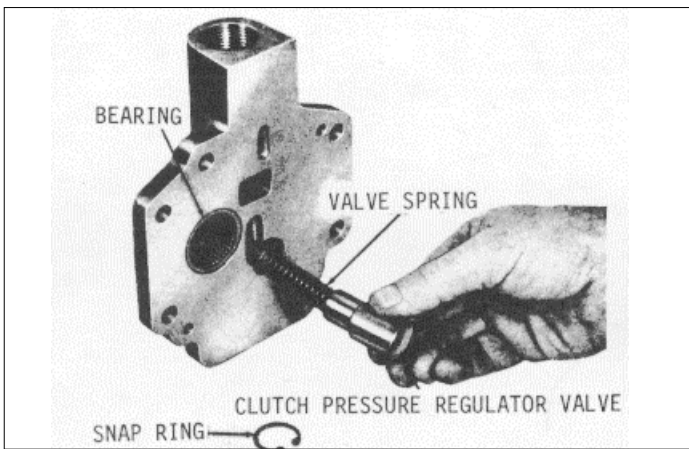

Fig. 28
- (d) Remove the snap ring, clutch pressure regulator valve and spring from the pump cover (Fig. 28).
- (e) Do not remove the needle roller bearing from the pump cover unless replacement is necessary (Fig. 28). If necessary, collapse the bearing, being careful not to damage the bearing bore in the cover and remove the bearing.
- (g) If the needle roller bearing (Fig. 28) was removed from the oil pump body cover, install new replacement.
- (h) Install the clutch pressure regulator valve spring, valve and snap ring in the oil pump body cover (Fig. 28).